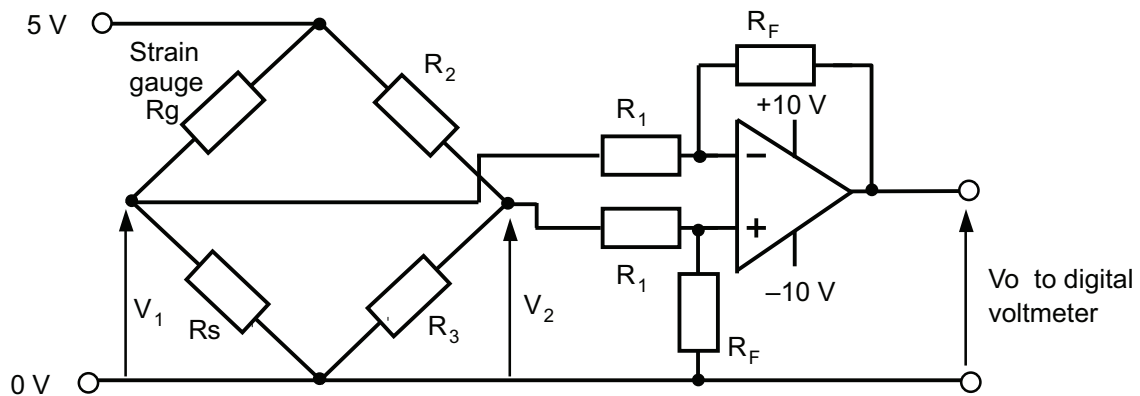

Fig. 1(b)
- (b) The system shown in **Fig. 1(a)** is to be altered to incorporate a weighing mechanism. This mechanism uses a strain gauge which is to be attached to the bottom of the tank. The proposed circuit for this is shown in **Fig. 1(b)**. A digital voltmeter, connected to the output from this circuit, will then display a number which will represent the approximate weight of the grain.
- (iii) The Op amp in **Fig. 1(b)** is connected as a difference amplifier having an output voltage, $V_o = (R_F/R_1)(V_2 - V_1)$. The output voltage V_o is to range from 0V to +0.2V as the gauge resistance is increased by 1%.